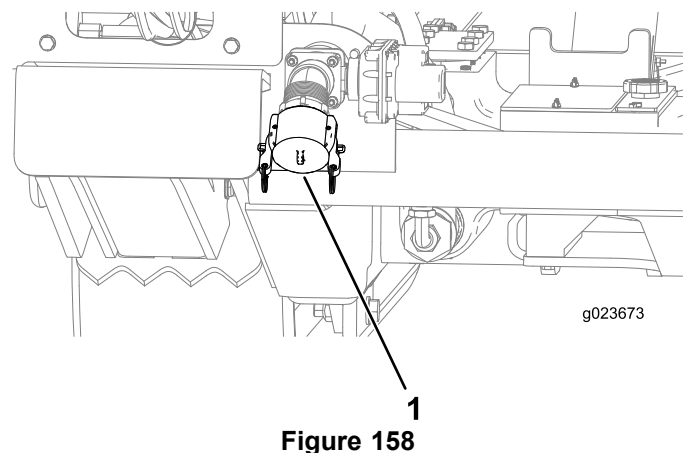

Figure 158
- B. Ensure that the cap is installed on the drilling-fluid pump inlet (Figure 158).